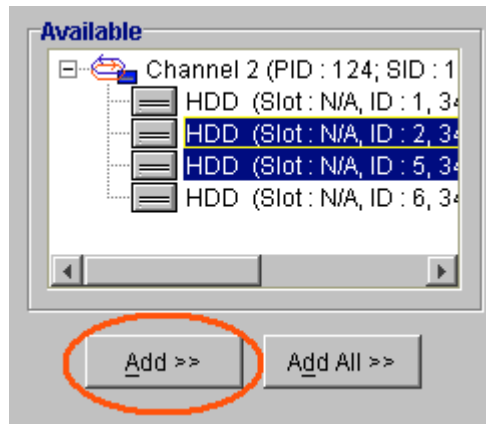

Figure 8-3: Selecting Logical Drives
- A.** Select the physical drives you wish to incorporate into a LD and click the “Add” button beneath the “Available” menu. See *Figure 8-3*.
- B.** If you wish to use all the available drives to create a logical drive, click the “Add All” button that appears beneath the “Available” menu (See *Figure 8-3*).